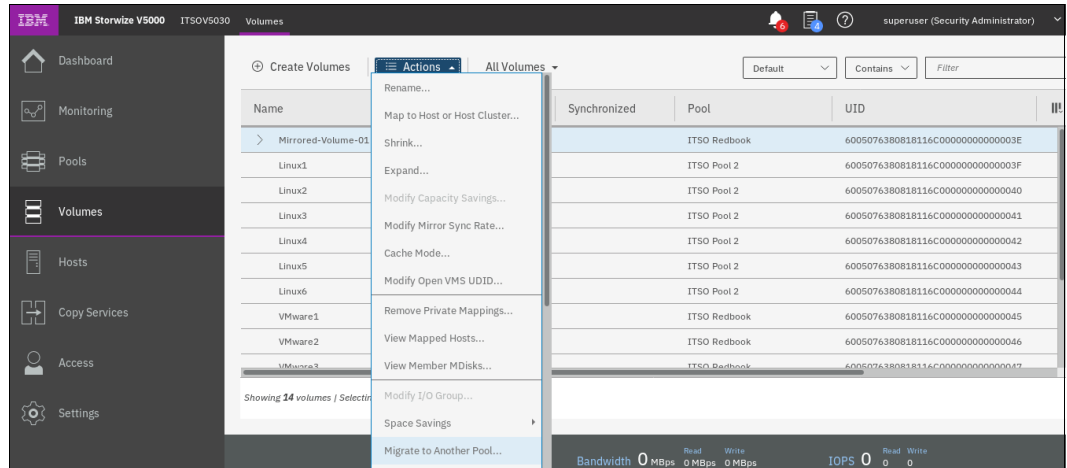

Figure 6-44 Selecting Migrate to Another Pool option
2. Right-click the wanted volume and select **Migrate to Another Pool**, as shown in Figure 6-44.